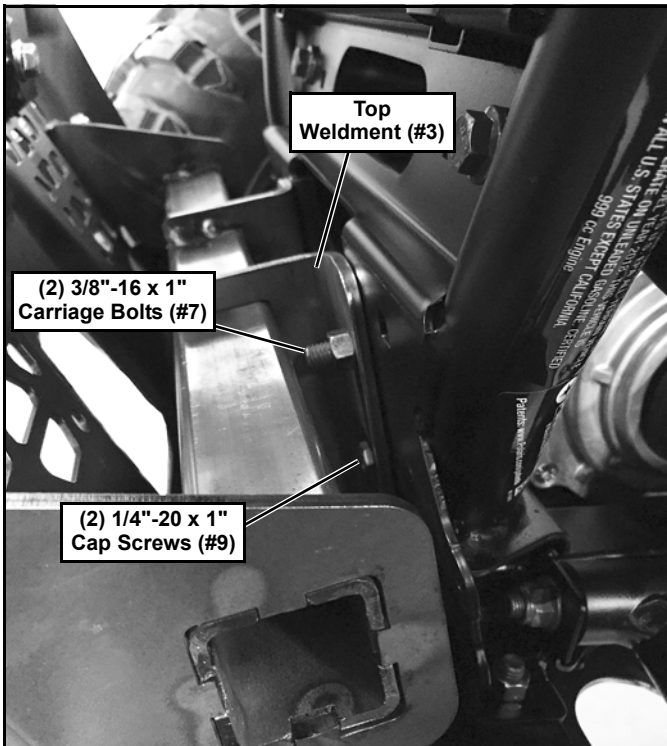

Figure 2
2. Behind the Brush Guard are four square holes in the frame. The bottom two square holes align with the top holes in the Top Weldment (#3) (See Figure 2).
3. Insert (2) 3/8"-16 x 1" Carriage Bolts (#7) into the square holes on the vehicle frame and through the Top Weldment (#3). Secure with (2) 3/8"-16 Locknuts (#8). Insert (2) 1/4"-20 x 1" Cap Screws (#9) into the lower rear holes in the Top Weldment (#3) and through the frame. Secure with (2) 1/4"-20 Locknuts (#10) (See Figure 2).